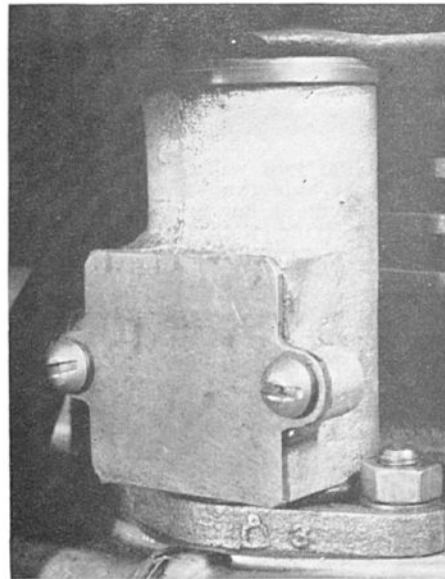

Figure 5
**VALVES.** Adjust the Valves only when the Engine is cold. Remove the Valve Cover Cap, shown in Figure 5, and use a 7/16-inch open-end wrench to adjust Tappet clearance to .012-inch. This is a self-locking Tappet.9